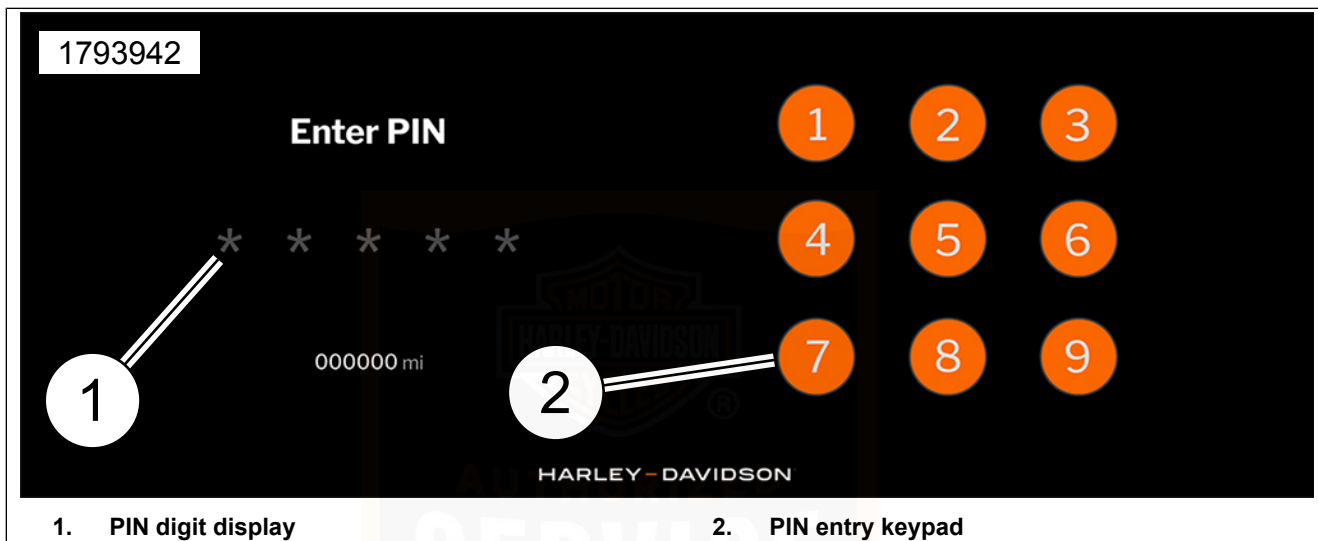

Figure 18. PIN Entry Screen
1. See Figure 18. Touching the IFCU screen will display PIN digit display (1) and the keypad (2).